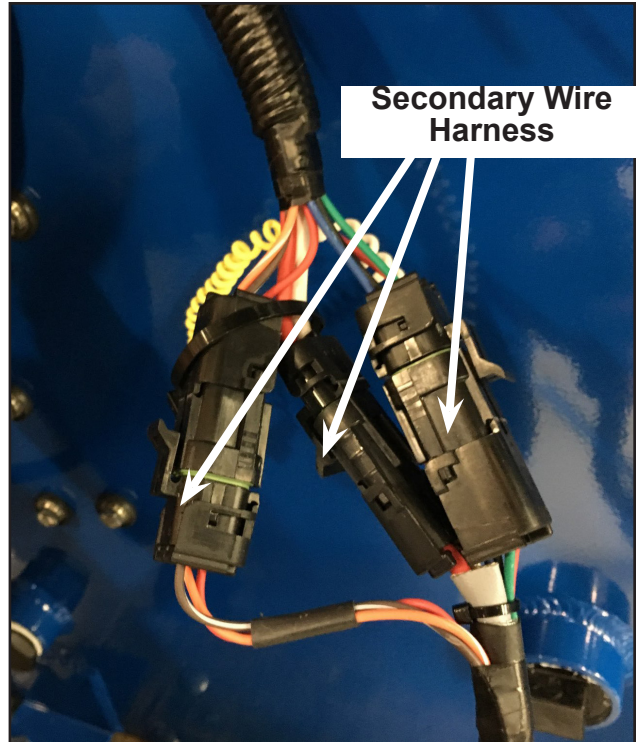

Figure 51. Connect Throttle Control Harness to 4 Pole Plug
1. Plug the Secondary Wire Harness (000-063-084) into the recovery tank, behind the power pack (Figure 51).